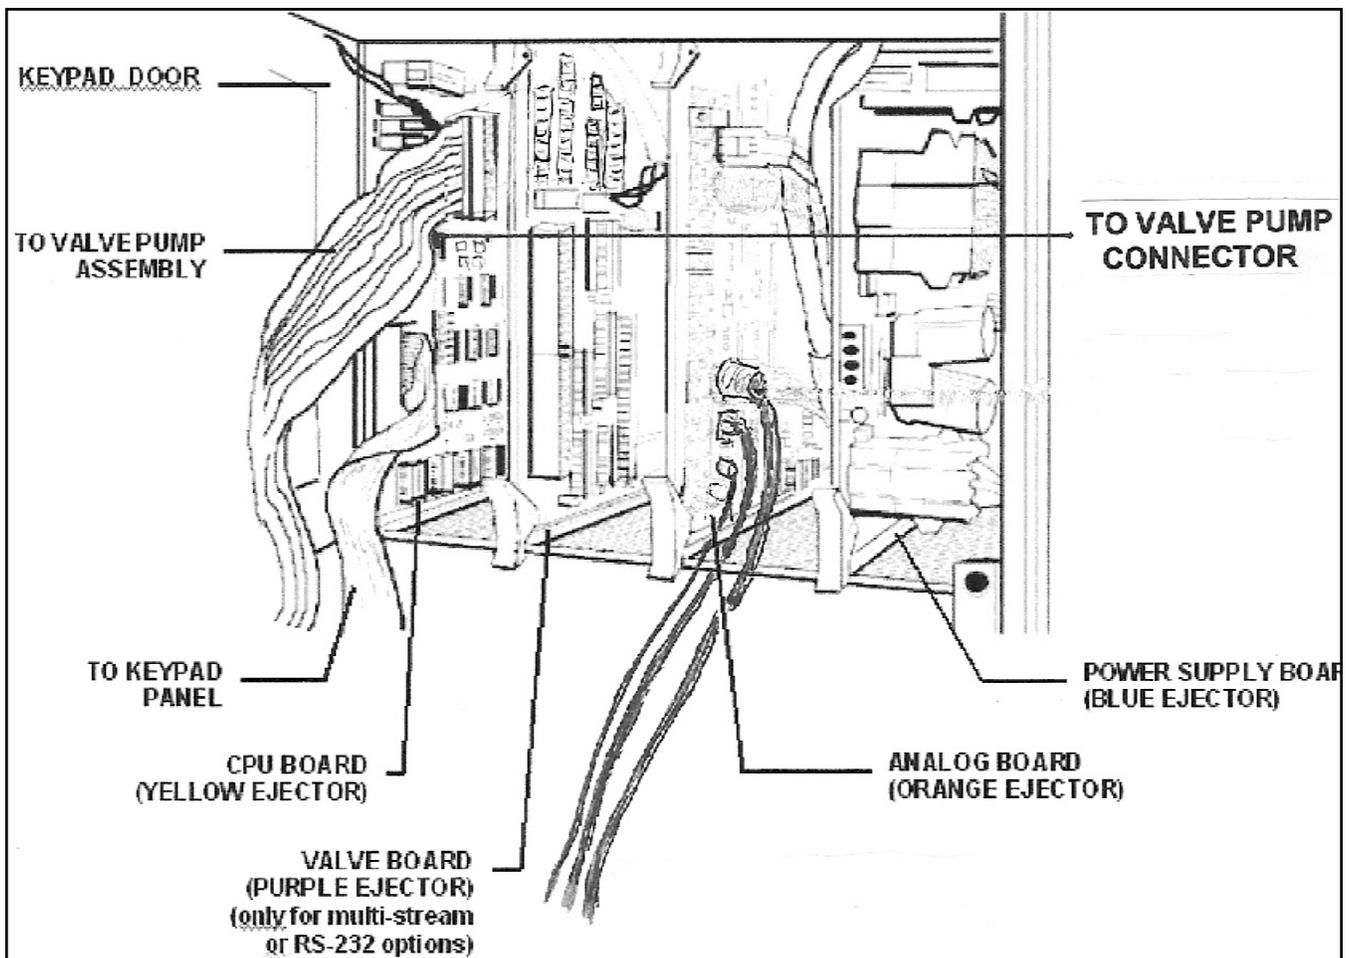

Figure 6-2. Card Cage
4. Unlatch colored clip from board to be replaced (refer to Figure 6-2).